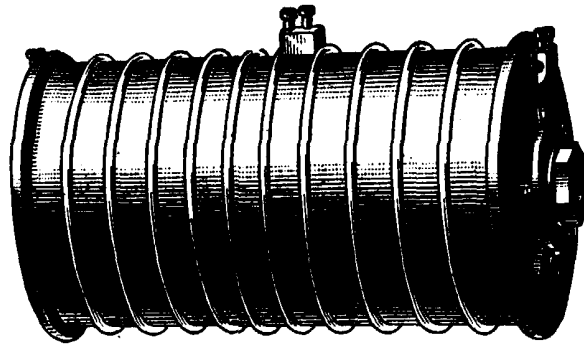

FIG. 31.
29. Westinghouse Resistance Coil.—In Fig. 31 is shown the type of resistance coil made by the Westinghouse Company. This coil is made of band iron insulated entirely with mica, and up to certain limits of abuse it is not affected by either heat or water. A single coil, such as that shown in the figure, is called a barrel, and the proper starting coil for any size motor can be made up of two or more of these barrels.